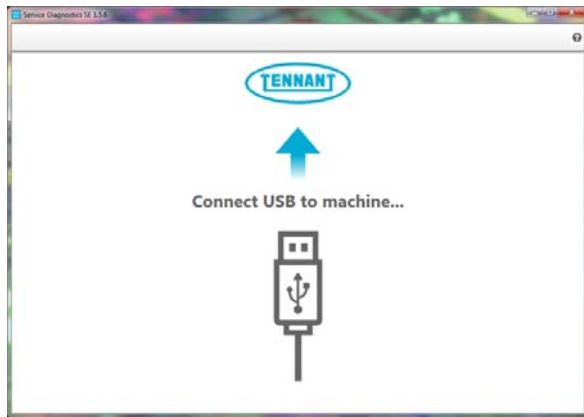

FIG. 13
2. Start the Service Software Application program. The following screen will appear. (Fig. 13)